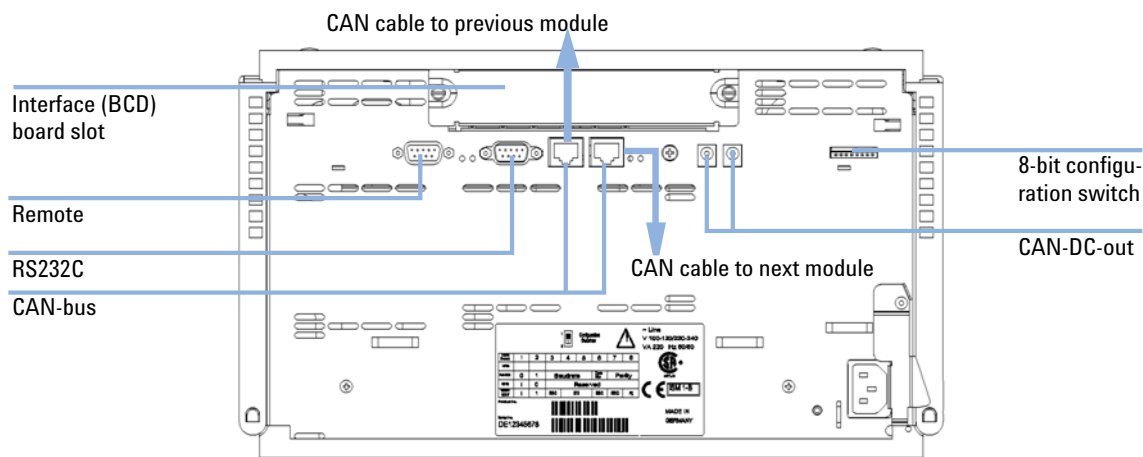

Figure 9 Preparative Pump Electrical Connections
- 5 If required, connect additional interface and control cables to the preparative pump (Figure 9 on page 38). See also “Connecting Modules and Control Software” on page 40.